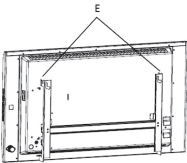

Fig.3
2. Insert the bracket assembly into the back holes (E) of the heater body, see Fig 3 and then slide the assembly up to match the inclined plane of the back cover.